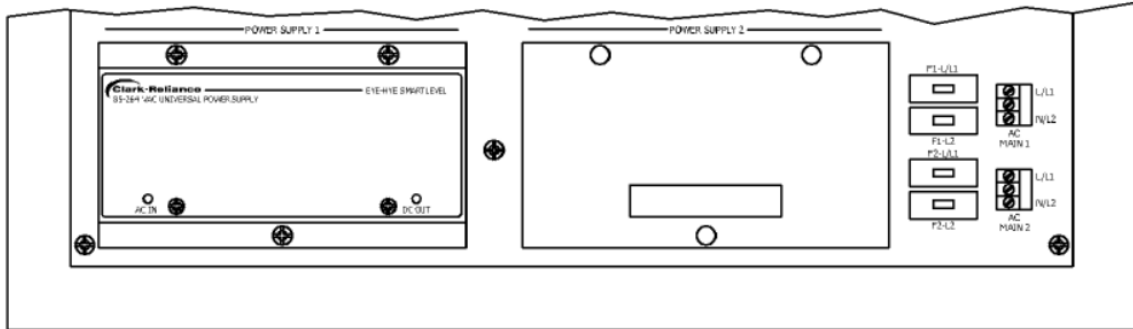

Figure 4
The Universal AC Power Supply provides power from an AC Main supply source to power the system. A single supply is typically installed in slot J17. The supply is installed and secured by (3) 6-32 x 1/2 machine screws. An additional supply can be installed in slot J18 to be either used as a backup supply from a separate power source or a redundant, backup supply from a single AC source. See Figure 4.